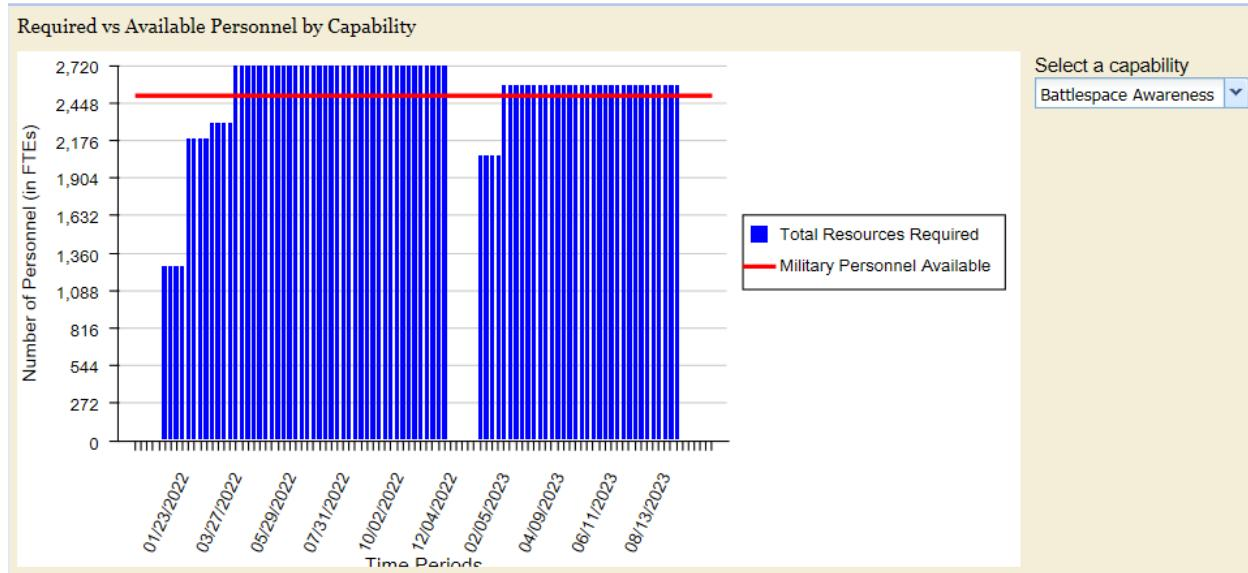
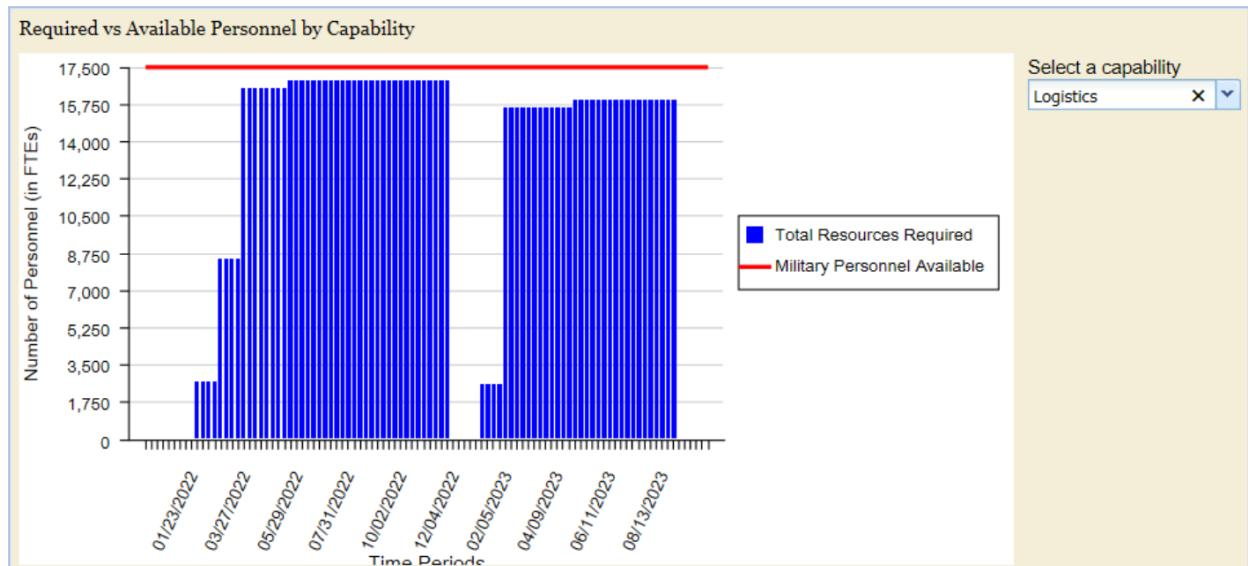

Figure 3. Required vs. Available Personnel for Battlespace Awareness.
Figure 4. Required vs. Available Personnel for Logistics.
f. Click on Graph: Required vs Available Personnel by Capability. This graph shows the manpower requirements by capability. The red line shows the military personnel available (active + reserve) for the selected capability. Check that the graph looks like Figure 3 when Battlespace Awareness is selected and like Figure 4 when Logistics is selected. There are not enough military personnel to meet the Battlespace Awareness requirements, but there is sufficient military personnel to meet the Logistics requirements.